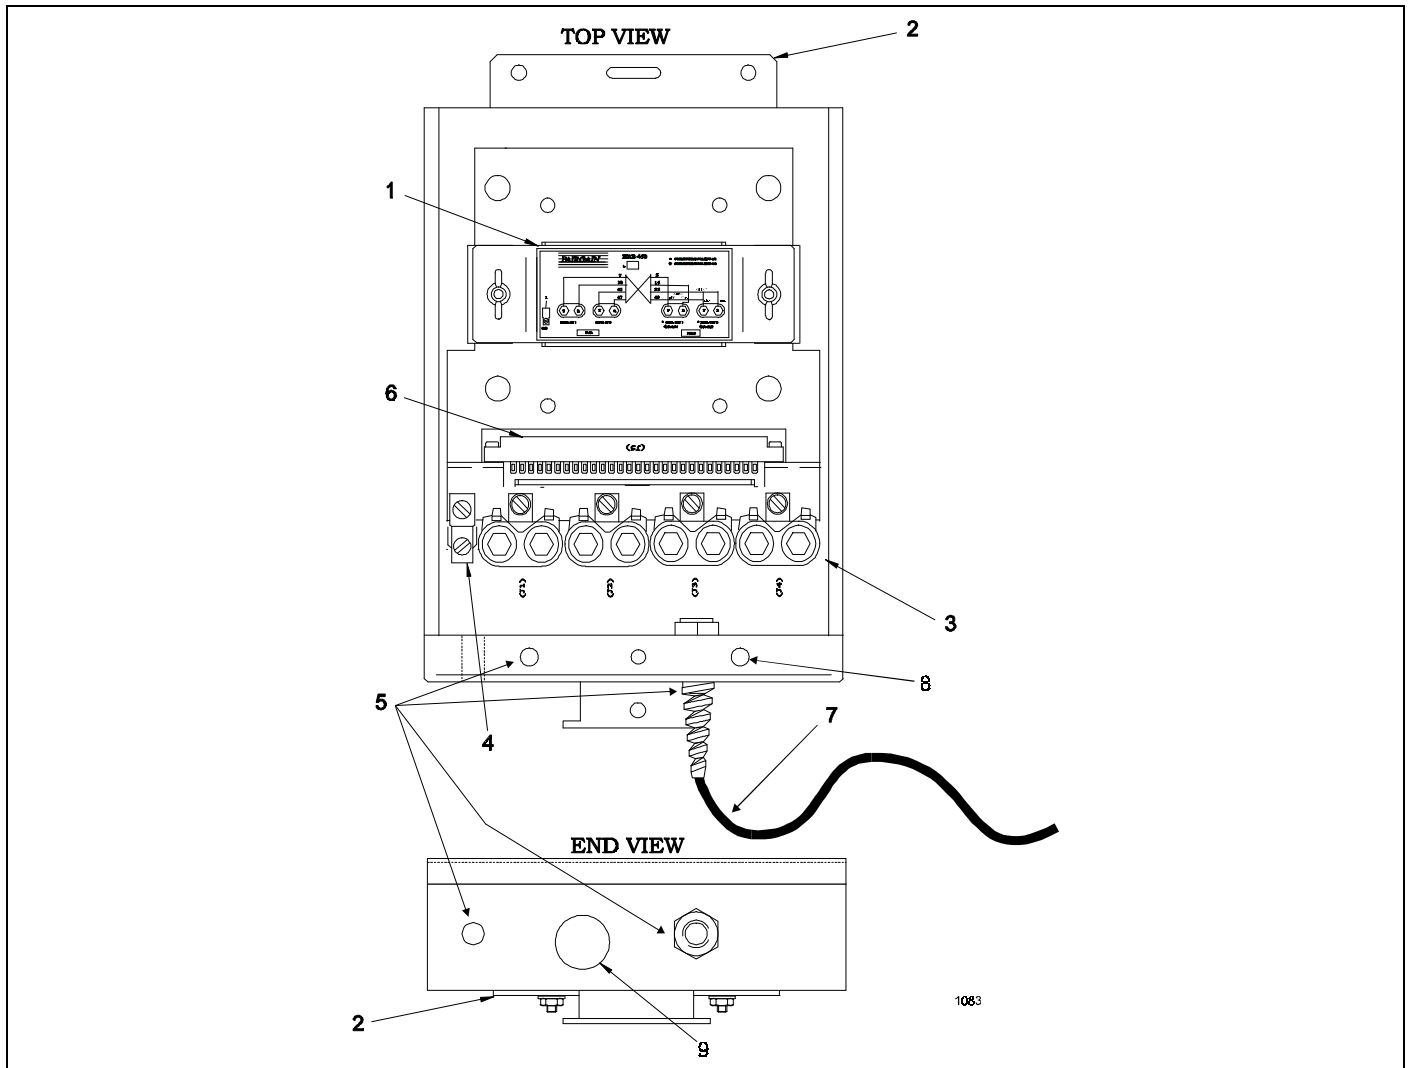

Figure 2. PairGain HRE-450 Major Components.
1.03 The HRE-450 white-rectangular enclosure is weather-resistant, non-pressurized, and has with a removable front lid. Its major components are shown in Figure 2.